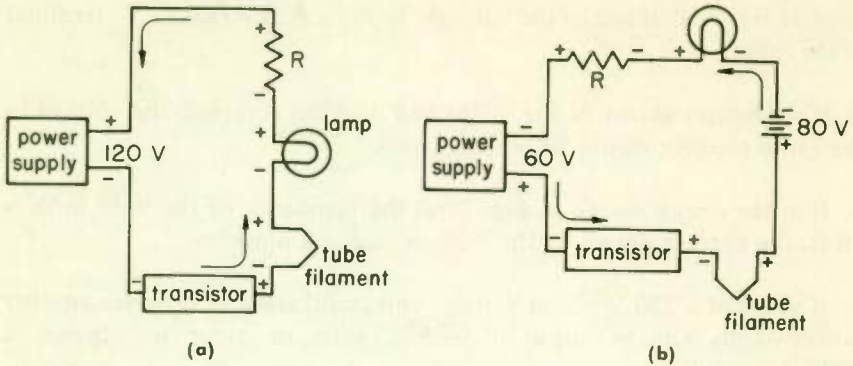
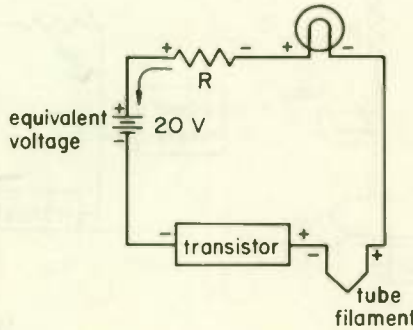

Fig. 39
Fig. 40
8. Draw an equivalent circuit for Fig. 39(b) in which the voltage sources are replaced by an equivalent voltage source. Show current direction and all polarities, and show the equivalent voltage in the circuit where the power supply is now located.
7. (a) See Fig. 39(a). (b) See Fig. 39(b). 8. See Fig. 40.